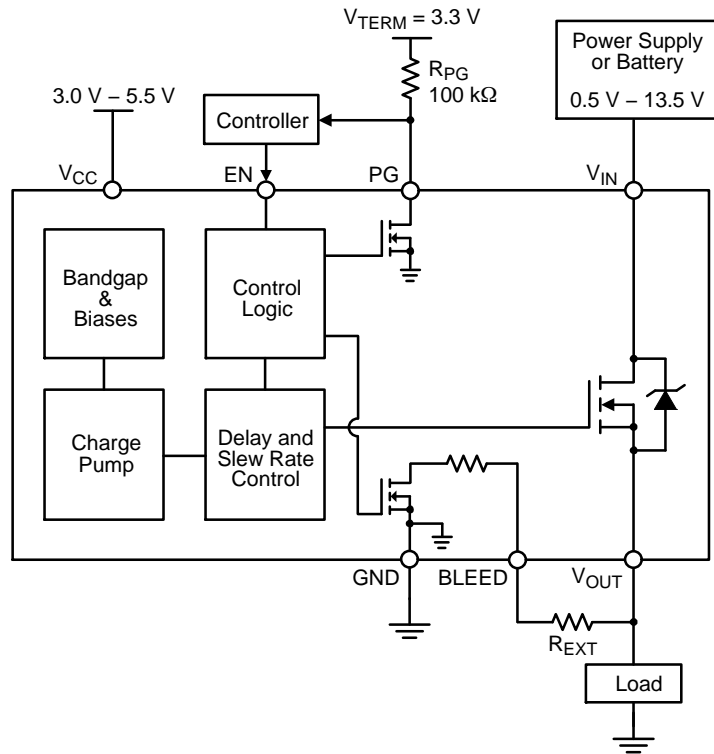

Figure 28. NCP45524 Typical Application Diagram – Load Switch
Is it required that the BLEED pin be connected to  $V_{OUT}$  either directly (as shown in Figures 29 and 32) or through an external resistor,  $R_{EXT}$  (as shown in Figures 28 and 31).  $R_{EXT}$  should not exceed 100 M $\Omega$  and can be used to increase the total bleed resistance and decrease the load bleed rate.
The NCP45524 devices have a power good output (PG) that can be used to indicate when the gate of the MOSFET is fully charged. The PG pin is an active-high, open-drain output that requires an external pull up resistor,  $R_{PG}$ , greater than or equal to 1 k $\Omega$  to an external voltage source,  $V_{TERM}$ , that is compatible with input levels of all devices connected to this pin (as shown in Figures 28 and 29).